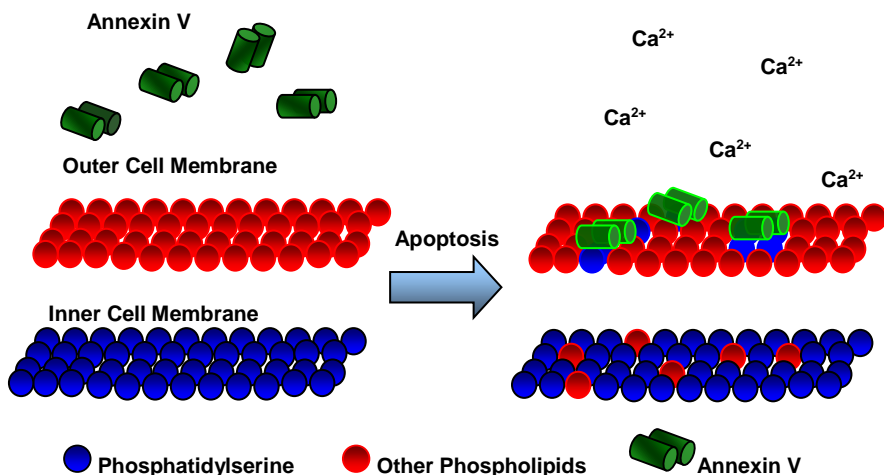

Figure 1. Schematic depiction of phosphatidylserine flipping during apoptosis and subsequent detection using Annexin V.
Early in the apoptosis process, phosphatidylserine (PS) becomes exposed on the cell surface by flipping from the inner to outer leaflet of the cytoplasmic membrane (Figure 1). This event is thought to be important for macrophage recognition of cells undergoing apoptosis, thus allowing the cells to be rapidly phagocytosed. The binding of Annexin V to phosphatidylserine is calcium-dependent, reversible, but very tight, with a K_d of approximately 5×10^{-10} M. At low PS concentration, a binding ratio of 8 annexins to one PS has been reported. These features make Annexin V conjugates ideal for identifying membrane changes associated with apoptosis, by using either flow cytometric or *in situ* labeling methods.